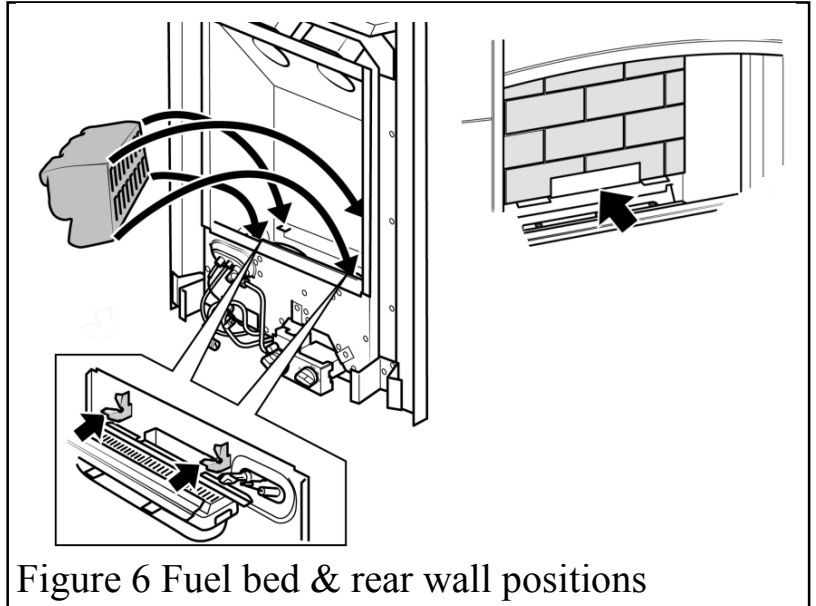

Figure 6 Fuel bed & rear wall positions
- When refitting the fuel bed, make sure that the front of the coal locates behind the two brackets that are behind the bottom front panel of the firebox. See figure 6.